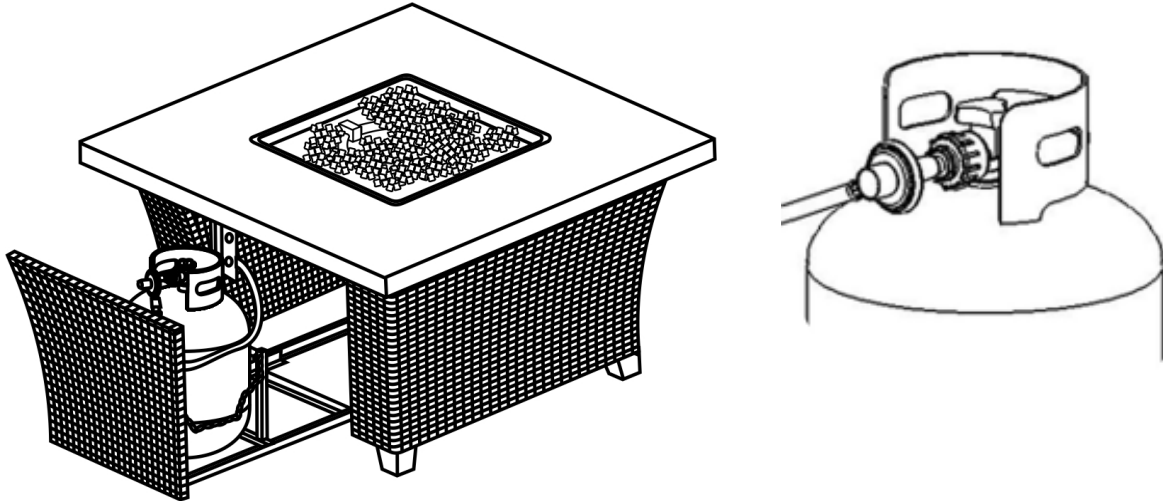

Figure 6
5. Slide the tank drawer out and place the LP tank in the drawer. Connect the regulator as shown in Figure 6. Turn the black handle clock-wise to tighten. Turn the handle counter clock-wise to remove. The hose must point down. Check that the valve is turned all the way clockwise to the "OFF" position. Open the tank valve. Apply a solution of soapy water to the tank-regulator connection and to the valve-hose connection to check for leaks. If soap bubbles continue to form, the connection has a leak. If a leak is found, close the tank valve and tighten all connections.